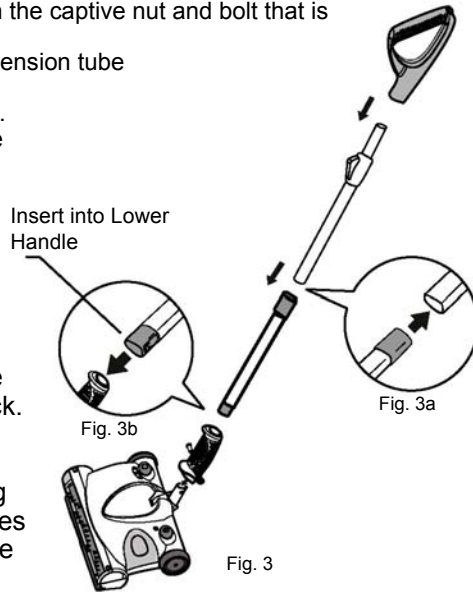

Fig. 3
- Attach the telescoping tube to the extension tube by pushing the plastic insert into the bottom part of the telescopic pole. (Fig. 3a) Push in until the "tab" on the plastic insert snaps into the open slot on the telescopic tube. Push the telescoping tube into the upper handle. (Fig. 3) Insert the extension tube into the lower handle firmly in place. (Fig. 3b)